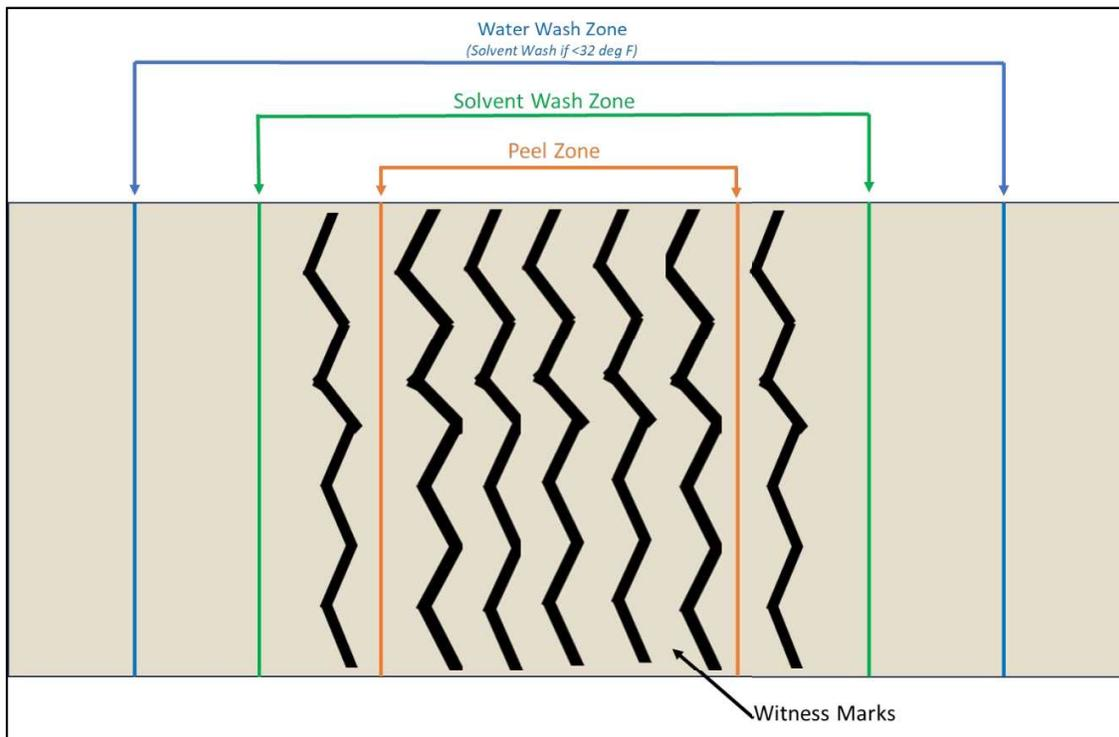

Figure 3: Pipe Markings – Electrofusion Saddle
- ★ C) **Establish clean areas or zones on the pipe.** Establish and mark each of the clean zones as shown in Figure 3 below, long enough to accommodate the fitting area, and as described in the subsequent steps. All markings on the pipe shall be done using a non-oil based silver Sharpie (e.g. MSC # 42258343) or Friatec marking pen (Contact Development Lab). Do not use keel, lumber crayons, or paint markers for marking pipe. Establish and mark each of the clean areas or zones as follows.
- ★ 1. **Mark Water Wash Zone:** Establish a water wash clean area on the pipe long enough to accommodate the fitting and solvent wash clean area as shown in Figure 3. Mark the boundary of the water wash zone on the pipe and ensure that subsequent cleaning does not exceed this established zone.